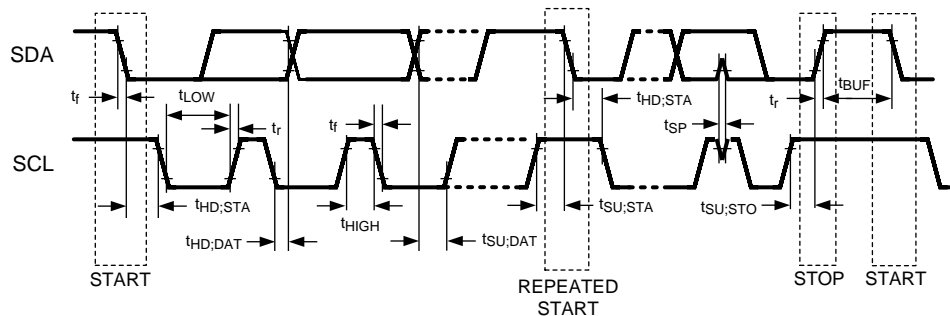

Figure 5. Serial Control Bus Timing
(6) UI – Unit Interval is equivalent to one ideal serialized data bit width. The UI scales with PCLK frequency.
(9) Specification is ensured by characterization and is not tested in production.
**Bi-Directional Control Bus AC Timing Specifications (SCL, SDA) - I2C Compliant (Figure 5)**
(1) Recommended Input Timing Requirements are input specifications and not tested in production.
**Bi-Directional Control Bus AC Timing Specifications (SCL, SDA) - I2C Compliant (Figure 5) (continued)**